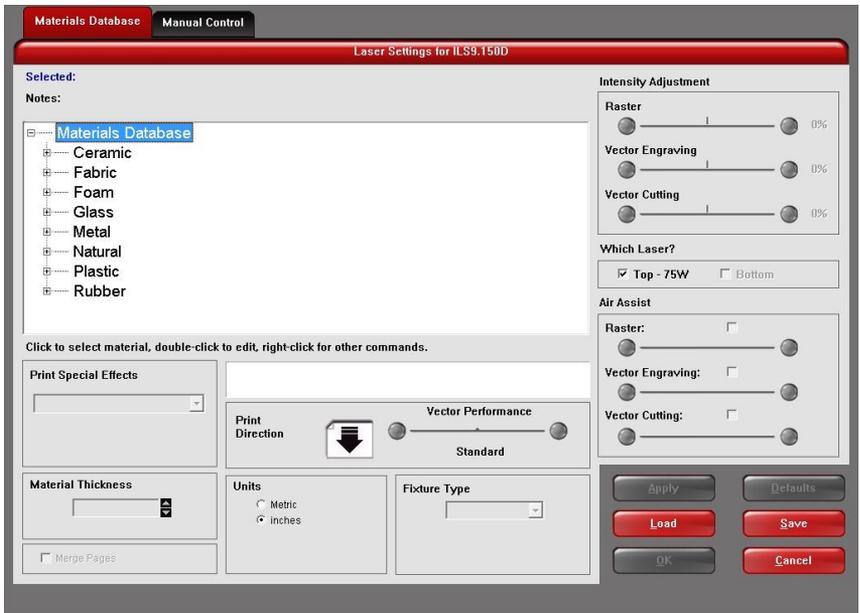

Figure 16: Materials Database Selection
24. Select desired material from the **MATERIALS DATABASE TAB** (Figure 16).
25. Set the **FIXTURE TYPE** to **NONE** (Figure 16).
26. Measure the thickness of the material with digital calipers for accuracy. Enter this into the **MATERIAL THICKNESS** field (Figure 16).